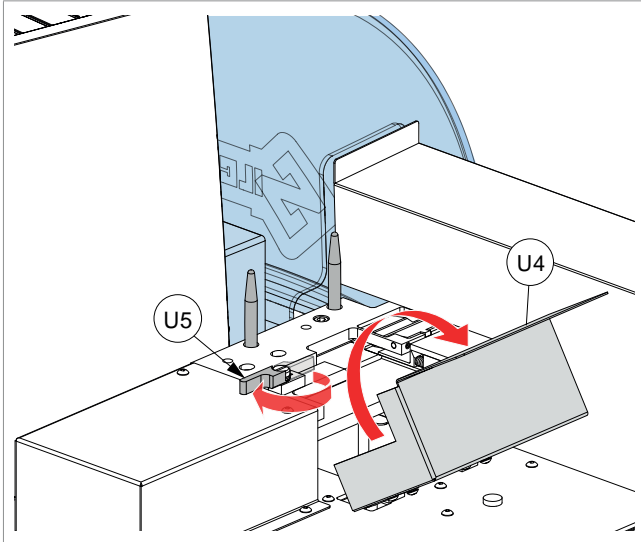

Fig. 106
- 1) Rotate the protective shield (U4) (Fig. 106).
- 2) Open the lever (U5) completely (Fig. 106).